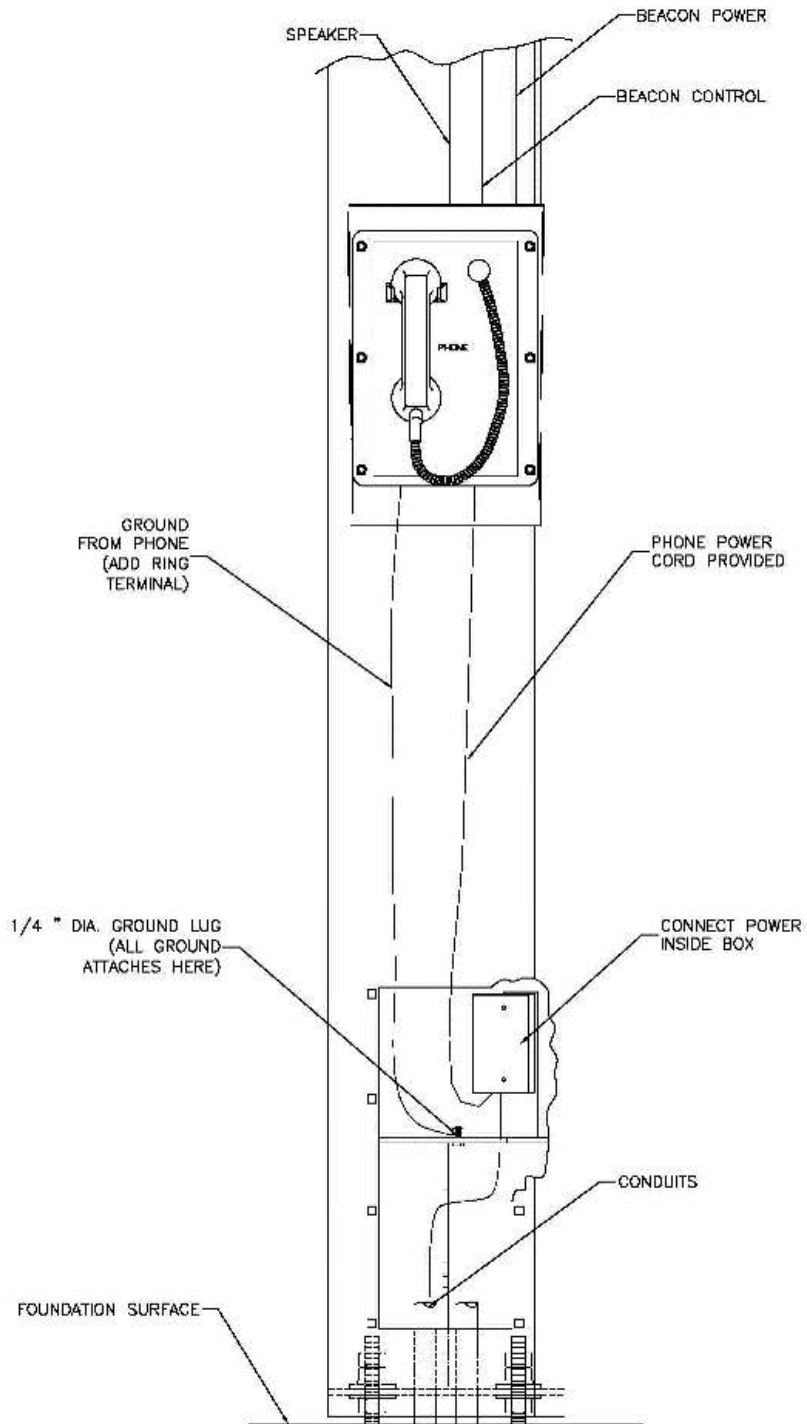

FIGURE 2 . ELECTRICAL WIRING
2. Inside of the electrical box connect the phone power cord (provided) to the in coming power from the conduit. See Figure 2
1. All grounding shall be at the grounding lug shown in Figure 2